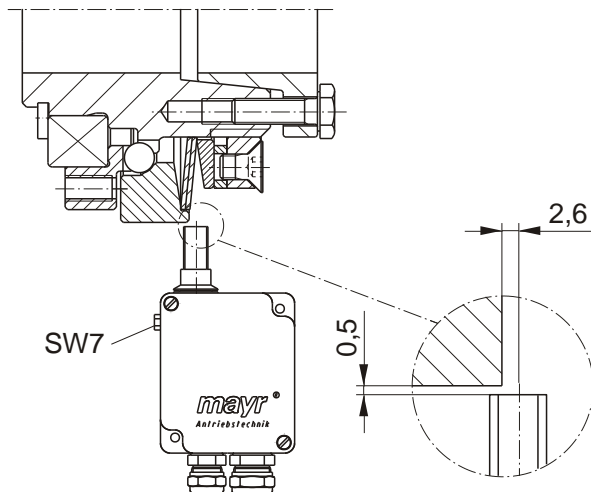

Fig. 13
Adjust the switch distance for the contactless limit switch acc. Fig. 13.
The distance of the thrust washer (3) to the switching point can be adjusted using a hexagon head screw, wrench opening 7 (Fig. 13).